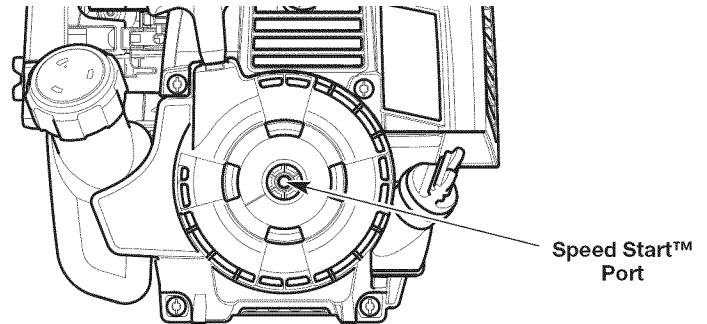

Fig. 16
6. Insert the Speed Start™ accessory into the Speed Start™ port (Fig. 16). Refer to the *Operation* section of the Speed Start™ accessory operator's manual.